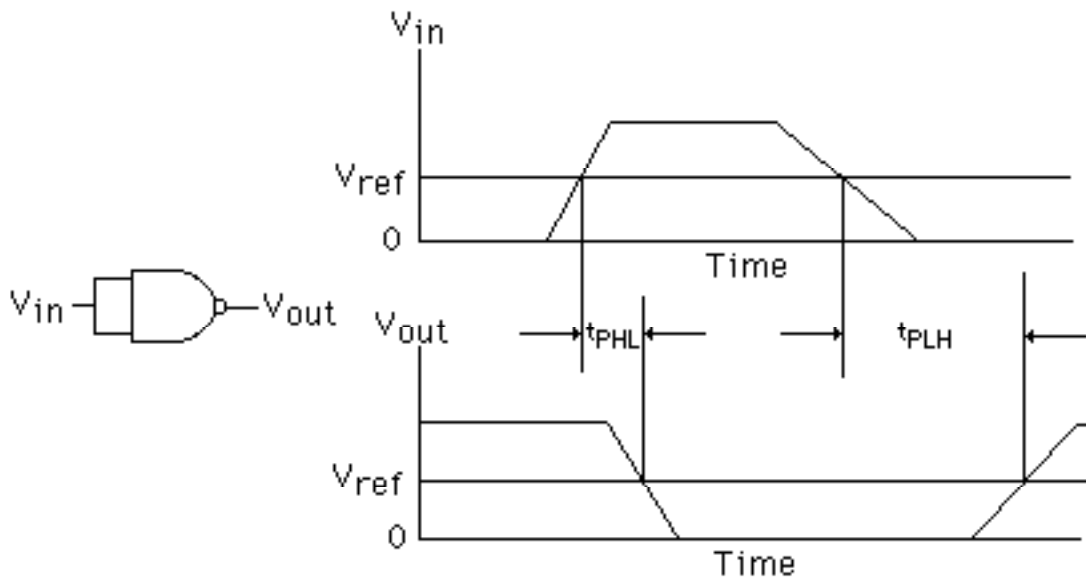

Figure 3.4 Propagation Delay Times.
The **propagation delay time** for a gate is the time required for the output to respond to a change in an input. In all practical gates, a time lag exists between an input change and the corresponding output response. The time interval between the instants when the input and output change states is not a satisfactory measure of the delay time of a logical device for two reasons. First, the input signals to gates and the output signals produced by gates are not the idealized pulses studied in theory. Figure 3.4 illustrates the nonideal input and output signals to a NAND gate. The transitions between HIGH and LOW voltage levels have nonzero *rise* and *fall times*. The time required for a signal to rise from 10% to 90% of its final value is called the rise time, t_r .
Consider the NAND gate in Figure 3.4, connected as a NOT gate. The input waveform, V_{in} , is a non-ideal pulse. When the input signal goes HIGH, the output will go LOW after the *turn-on delay time* t_{PHL} . The figure illustrates the turn-on delay for a non-ideal output pulse. The typical turn-on delay for a standard series TTL NAND gate is 7 ns. When the input signal goes LOW again, the output of the NAND gate goes HIGH after the *turn-off delay time* t_{PLH} . The typical turn-off delay time for a standard series TTL NAND gate is 11 ns. The average *propagation delay time* t_p is then defined by:
1. Apply a 307.2 kHz square wave (appendix A) from the logic box to the inputs of a CD4001 CMOS gate and to the inputs of a 74LS00 TTL gate (see Figure 3.4). Use the oscilloscope to display the outputs from both gates simultaneously. Carefully plot the output waveforms for both gates on the same axis, then copy it to your final report. Which family, TTL or CMOS, has the faster rise and fall times?